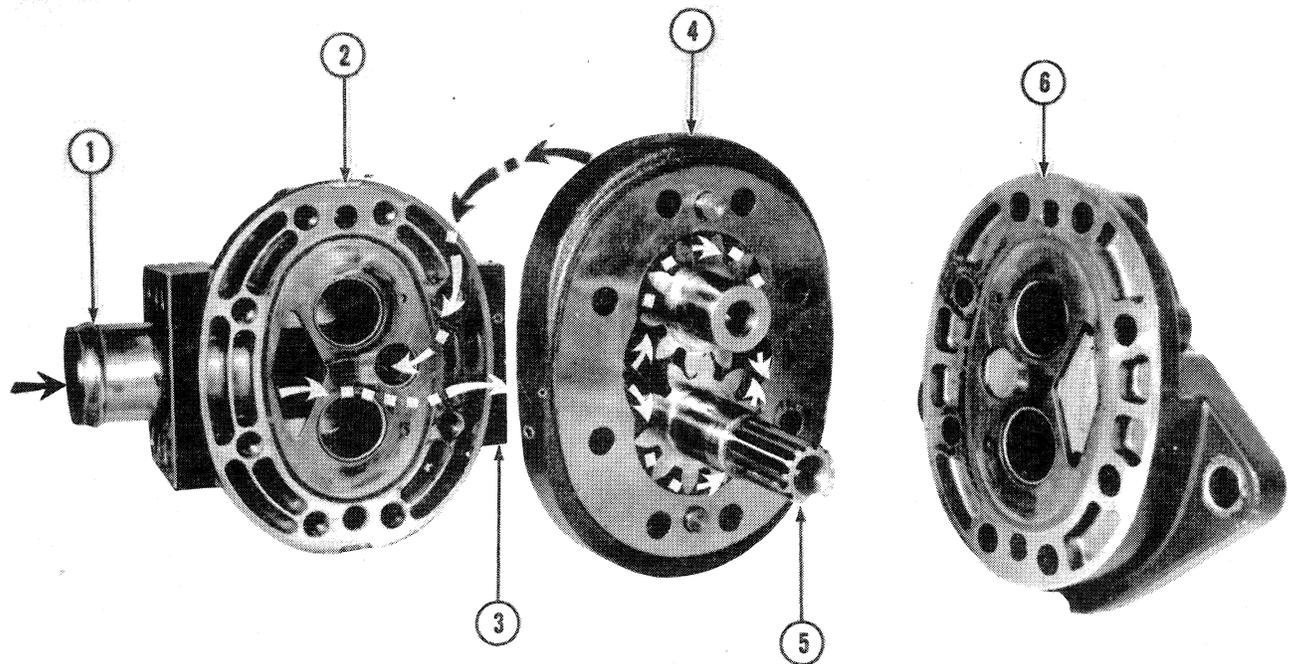

Figure 2
The gear type hydraulic pump, Figure 2, for the Ford 340 and 540 Tractors is driven in a counter-clockwise direction and delivers oil taken from the hydraulic reservoir to the control valve. Oil enters the pump at the inlet port (1) and is transported via the two gears (5) to the pump outlet (3). Pumping action takes place as the drive gear rotates the driven gear. As the gears unmesh, oil fills the spaces between the gear teeth and is carried to the outlet side of the pump. As the gears begin to mesh, the oil is forced from between the gear teeth, thus building pressure and forcing oil through the outlet port.